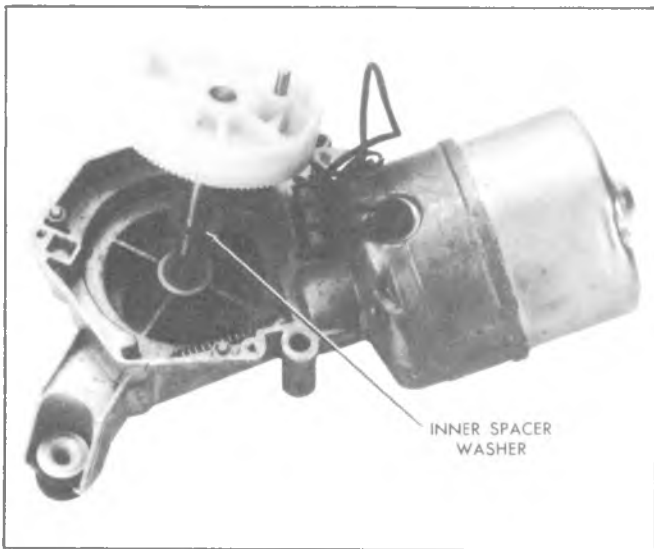

Fig. 8-29 - Drive Gear Removal
5. Slide the gear assembly out of the housing and remove the inner spacer washer (fig. 8-29).